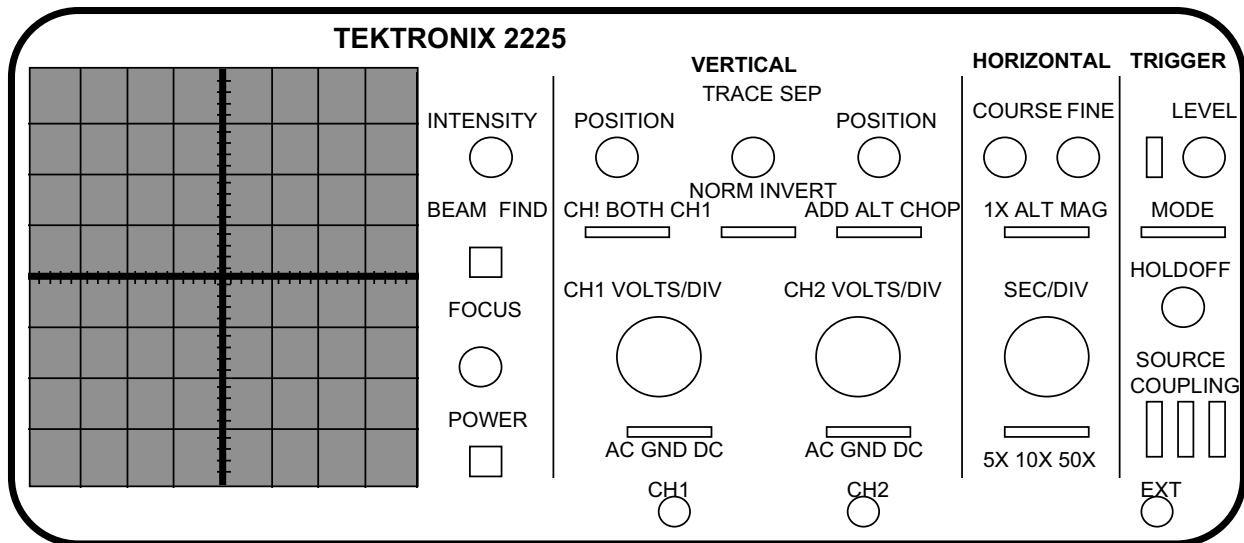

Figure 5: Front Panel of Analog Oscilloscope
- There are four major control groups on the Tektronix oscilloscope: (1) the **Display group**; (2) the **Vertical group**; (3) the **Horizontal group**; and (4) the **Trigger group**. See Figure 5, below.